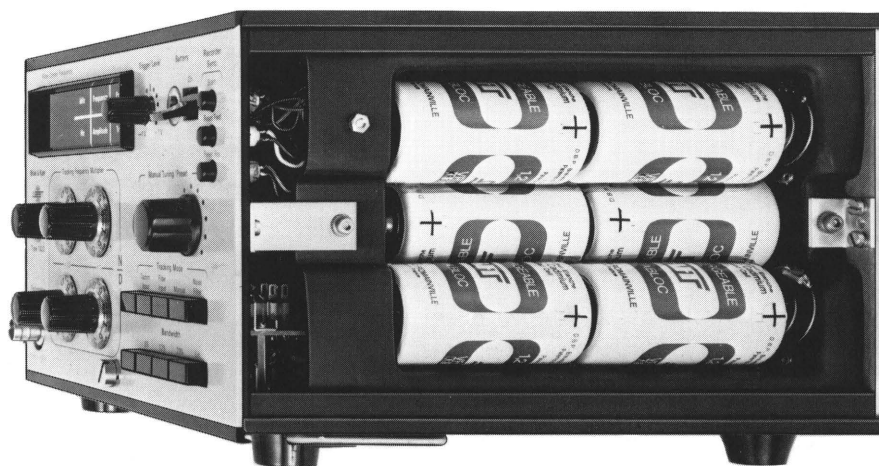

Fig.3.3. Location of the six cells in the battery compartment of the Type 1623
2. Place the cells in the compartment with their polarities as indicated. (See Fig.3.3.)